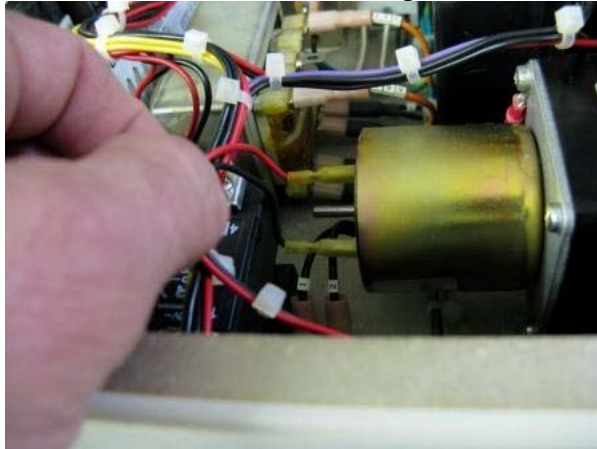

Fig. 10
12) Place pump back in unit and connect the two power wires. **Figure 10**